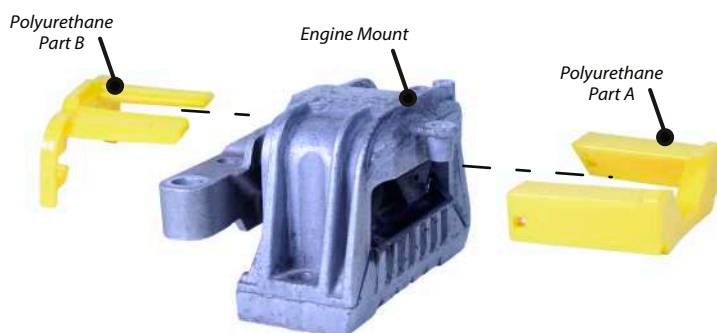

Figure 1 - exploded diagram showing how to fit polyurethane parts in engine mount
3. Fit Part B into the top voids closer to the mounting bracket and lock the pins of Part B into the pin holes on Part A to secure the two together (Figure 1).